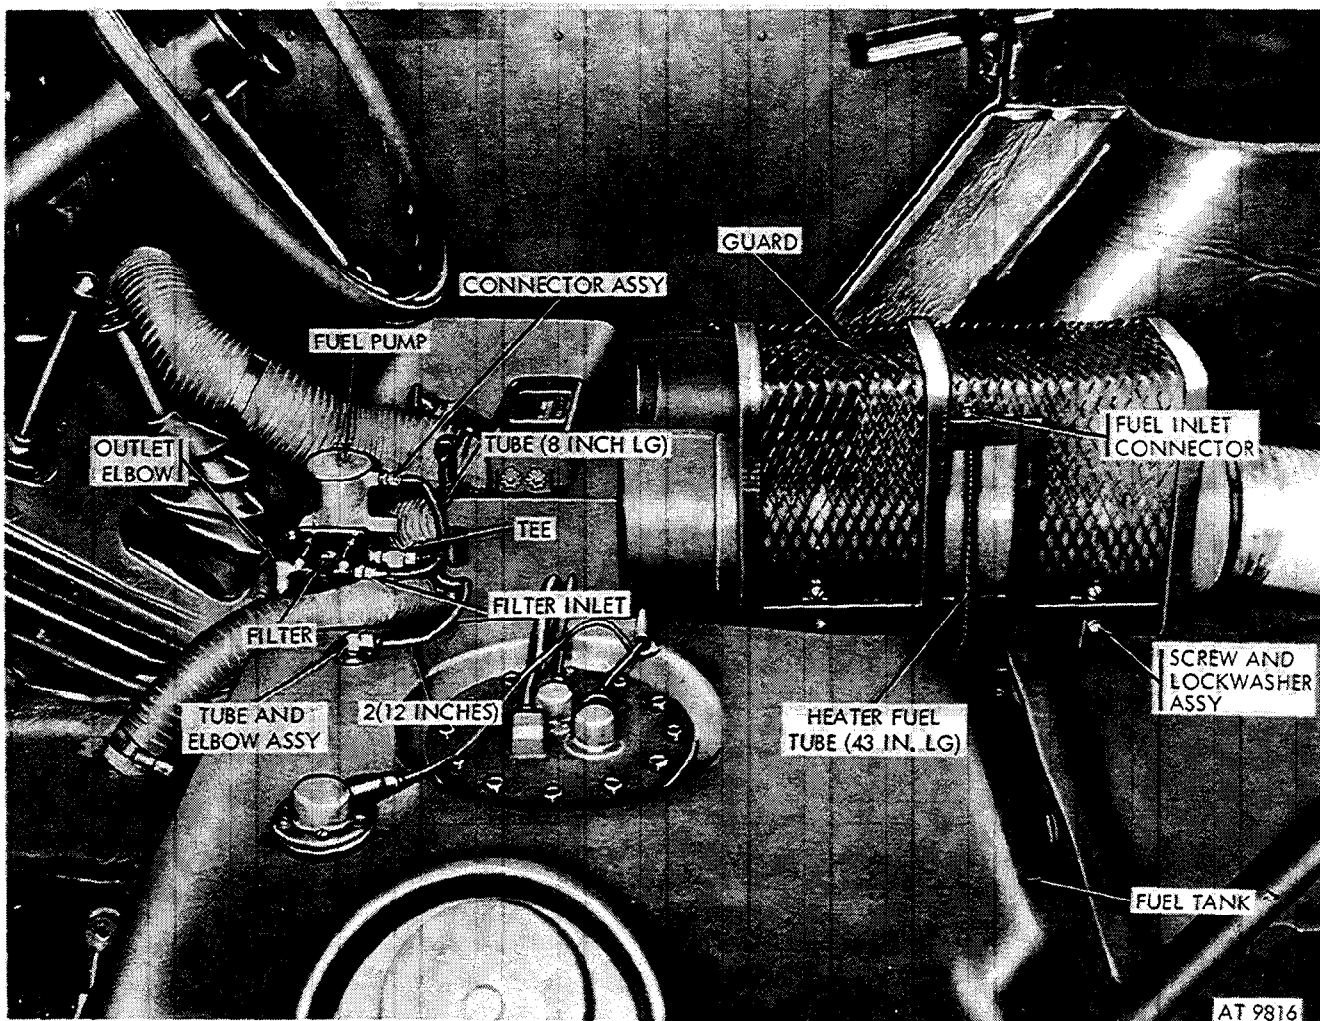
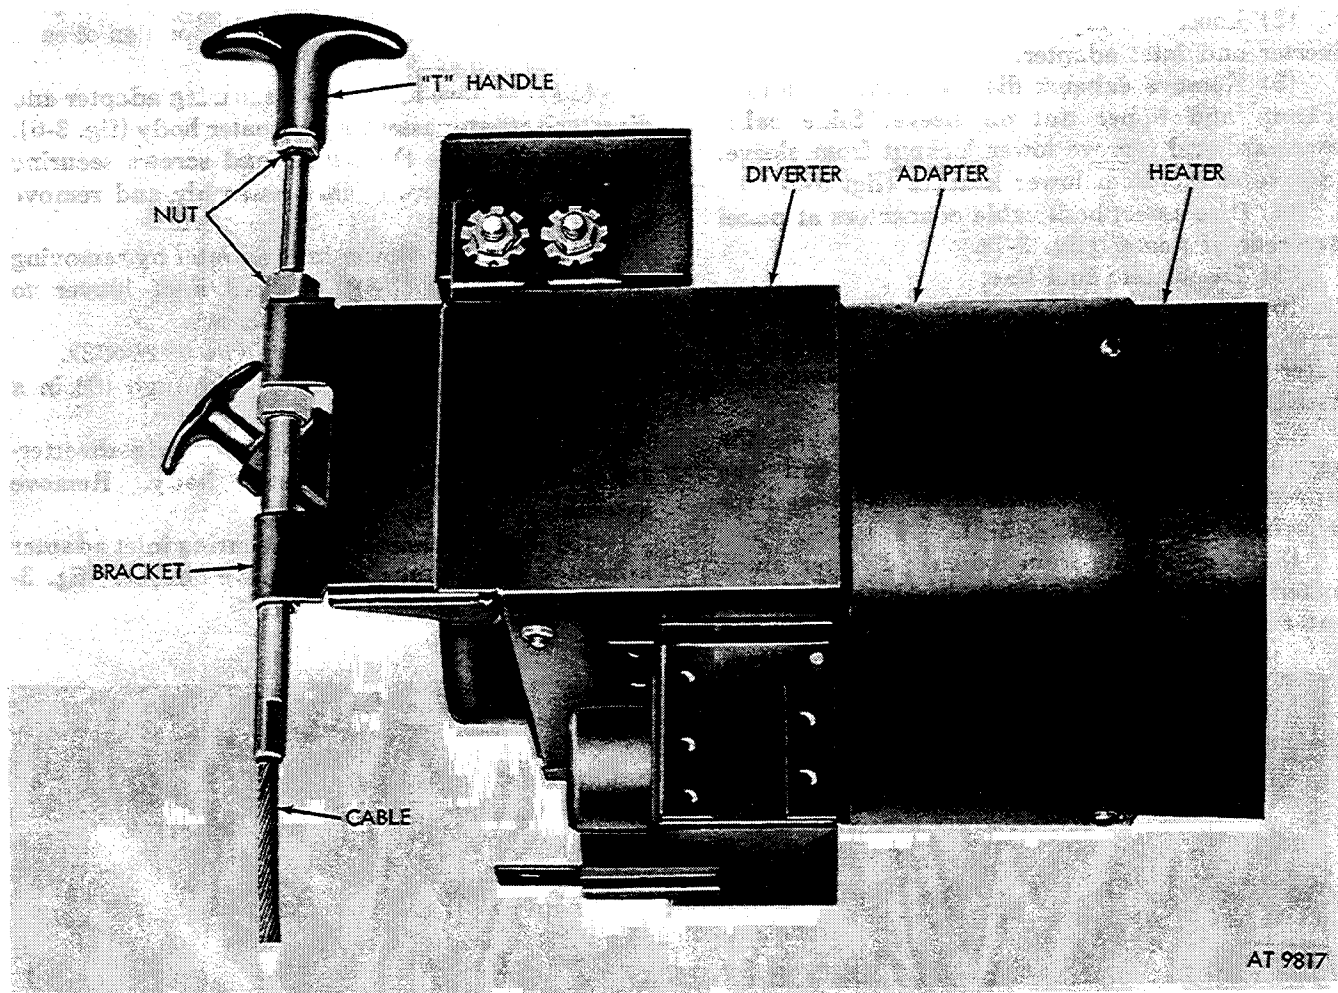
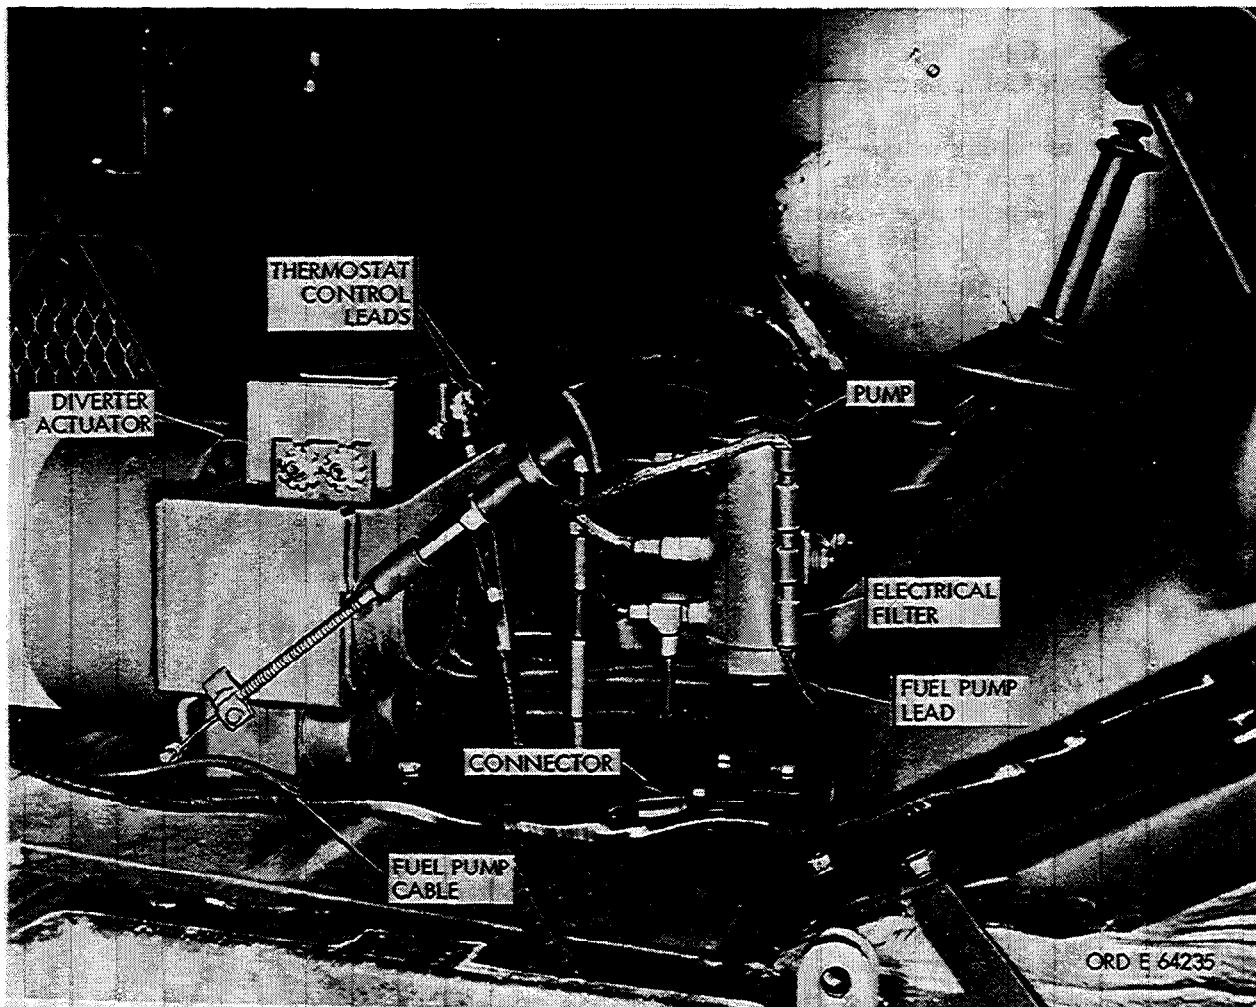

Figure 3-5. Fuel pump filter & fuel lines installation.
Figure 3-6. Exhaust diverter control handle removal.
Figure 3-9. Fuel pump cable and connector.
damper permitting heated air to again flow to the batteries. Perform test by removing battery compartment and battery box covers after the damper door has closed. This will allow the thermostat to cool more rapidly causing the actuator to open the damper. If the damper opens when it should close, reverse the thermostat lead wire connections at the terminal strip of the actuator (fig. 3-9). Repeat test.
(1) Remove four heater guard retaining screws. Remove guard (fig. 3-5).
(2) Loosen clamps retaining hoses to heater diverter and inlet adapter.
(3) Remove exhaust diverter control handle, locknut, and upper nut on sleeve. Slide cable downward and remove lower locknut from sleeve. Remove sleeve from lower bracket (fig. 3-6).
(7) At terminal board, mark one of the thermostat control leads (fig. 3-9), and the respective terminal for identification. Remove both leads from terminals (fig. 3-9).
(8) Loosen nuts from exhaust diverter studs located under heater to relieve gasket pressure on heater exhaust pipe.
(9) Lift heater from mounting pads.
(10) Place chalk mark on heater body, adapter and diverter-actuator to coordinate position of each at assembly (fig. 3-6).
(11) Remove four screws securing adapter and diverter-actuator assembly to heater body (fig. 3-6).
(12) Remove three nuts and screws securing adapter to diverter-actuator assembly and remove adapter (fig. 3-6).
*a. Removal.* Refer to figure 3-5.
- (1) Disconnect upper fuel line from fuel pump.
- (2) Disconnect both fuel lines from tee at bottom of fuel pump.
- (3) Remove tee from fuel pump.
- (4) Disconnect cable connector at fuel pump (fig. 3-9).
- (5) Remove mounting nuts, washers, and screws. Remove pump.
*b. Installation.* Reverse procedure shown in (5) through (1), *a* above.
(1) Disconnect both fuel lines from fuel filter assembly.
(2) Remove two mounting screws.
(3) Remove elbow from fuel outlet.
*b. Installation.* Reverse procedure shown in (3) through (1) of a above.
a. *Removal (Heater Assembly 870193) (fig. 3-9).*
(1) Loosen both hose clamps and remove defroster hose and battery box hose from diverter assembly.
(2) Remove exhaust diverter control handle (fig. 3-6).
(3) Mark one battery box thermostat lead wire and its respective terminal. Disconnect both lead wires from actuator terminal strip.
(4) Remove four screws securing diverter adapter to heater body. Remove diverter and adapter.
(5) Remove three screws, washers, and nuts securing adapter to diverter.
b. *Removal (Heater Assembly 10920608). Refer to figure 3-9.*
(1) Perform (1) through (3) above.
(2) Remove three diverter to heater body attaching screws. Remove diverter-actuator assembly.